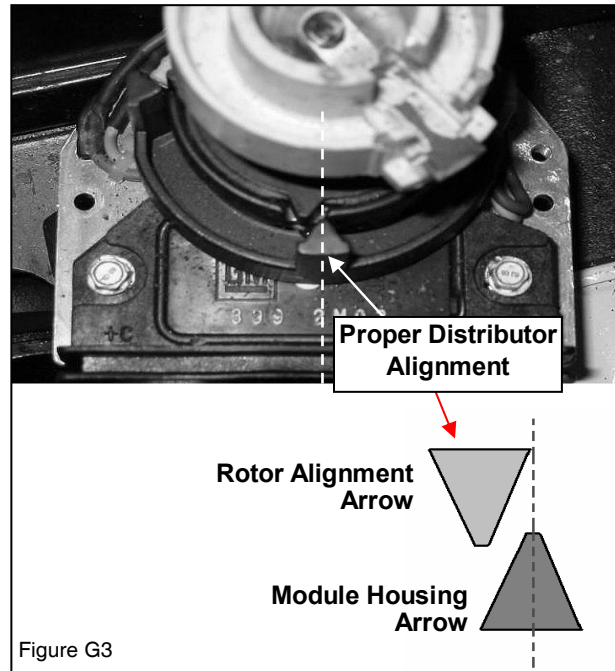
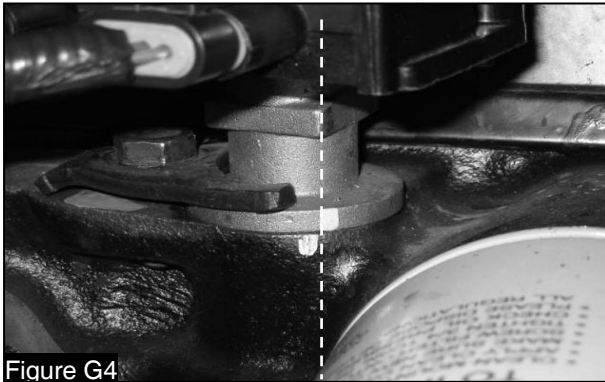

Figure G3
Figure G4
To use the injector test in the Service Tool software simply select the checkbox to the right of the INJECTOR TEST. (FIGURE G4) The box will change to read Enabled and the test mode will go active. This will pulse the injector for 7 seconds when the engine is not running.
- Loosen the distributor hold down nut and rotate the distributor so that the signal rotor gear tooth of the #1 cylinder (tooth opposite the flat side of the distributor shaft) lines up with the sensor pickup. (Figure G4).
3. The internal distributor alignment arrows are now visible (Figure G3). The internal crank signal from the GM ignition module is not used by the SECM for a speed reference with the 3.0L engine. The distributor's internal alignment arrows are only used as an alignment reference point for setting the correct distributor position within the timing window.
4. Loosen the distributor hold down bolt and rotate the distributor so that the module-housing arrow aligns with the rotor arrow as shown in Figure G3.
- Once the alignment arrows are adjusted as shown in Figure G3, the outside corner of the distributor housing should not align with the distributor reference mark on the engine block and should resemble the alignment as shown in (Figure G4).